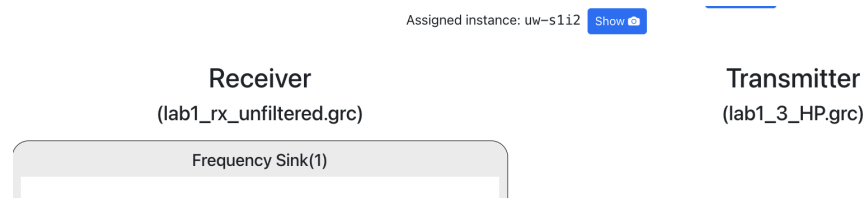

Figure 4. Instance in a RHL-RELIA transmission
Repeat the experiment in (1) until you have obtained the SFO for 4 distinct instances. Annotate both the instance identification and the SFO in the table below. The instance identification will appear above the title of the widgets. For example, in Figure 4, the instance identification is uw-s1i2.